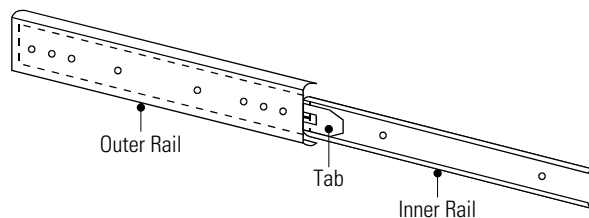

Figure 14. Separating the Slide Rails
4. Separate the two slide rails (the rails are shipped already assembled). To separate, pull the inner rail all the way out. Press the tab on the inner rail and continue pulling the rail until it comes apart (see Figure 14).